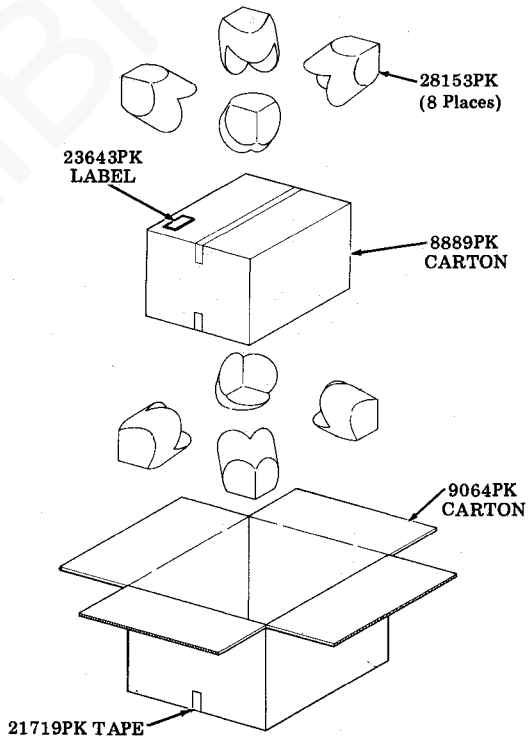

Fig. 48
- Step 7. Form a 9064PK carton as shown in Fig. 48. Close and seal bottom flaps as outlined in Step 2.